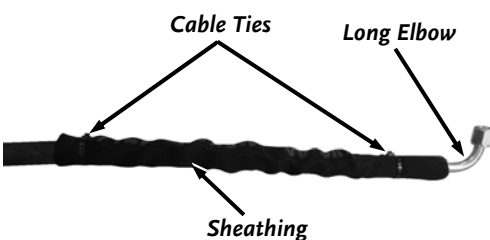

Figure 6
8. Slide the Sheathing over the long Elbow end of one of the Hoses and secure it with the two Cable Ties (**Figure 6**).